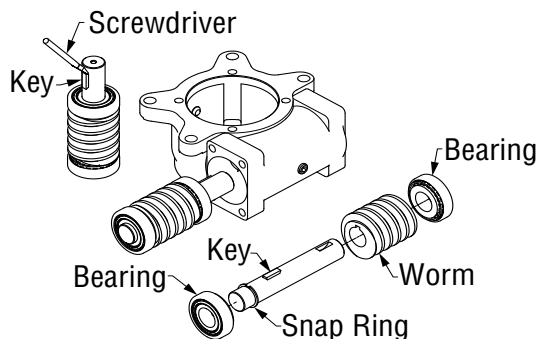

Figure 5-31, Input Shaft
10. Remove the input shaft assembly. The assembly fits tightly, so use a rubber mallet or press on the extended shaft to remove it. Remove the exposed key with a screwdriver, allowing the bearing and worm to slide off of the shaft. (Figure 5-31)